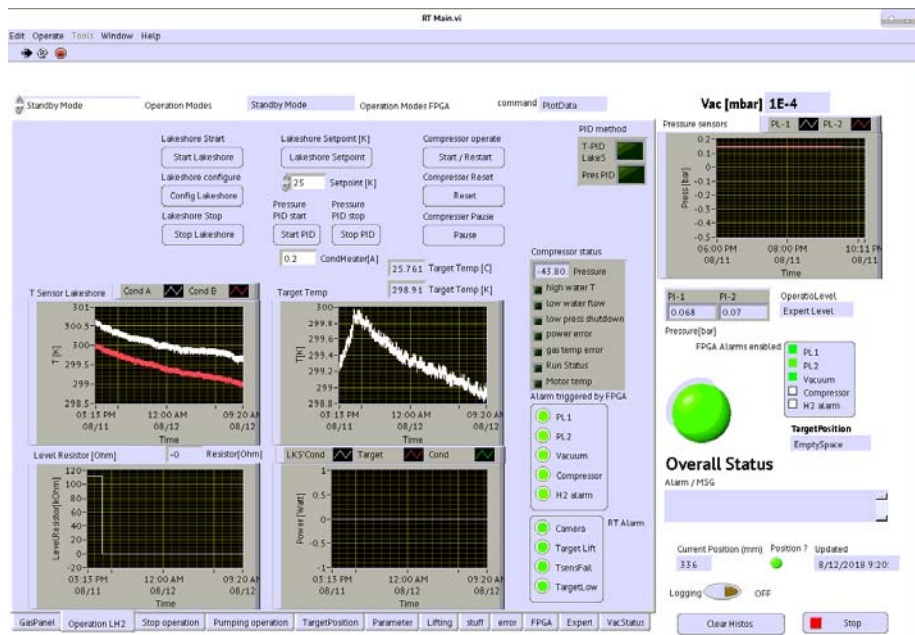

Figure 4: A picture of the 'Operation LH2' tab of RTMain.vi.
11. Select 'Start Mode' and check on 'Operation LH2' tab of RTMain.vi that the level sensor resistance is about 111 Ω (Fig. 4). Change back to 'Standby Mode'.
5. Check supply pressure, PI-1, and target exhaust pressure, PI-2, read less than 0.01 bar on 'Operation LH2' tab of RTMain.vi (Fig. 4).
- a) go to 'Operation LH2' tab of RTMain.vi (see Fig. 4),